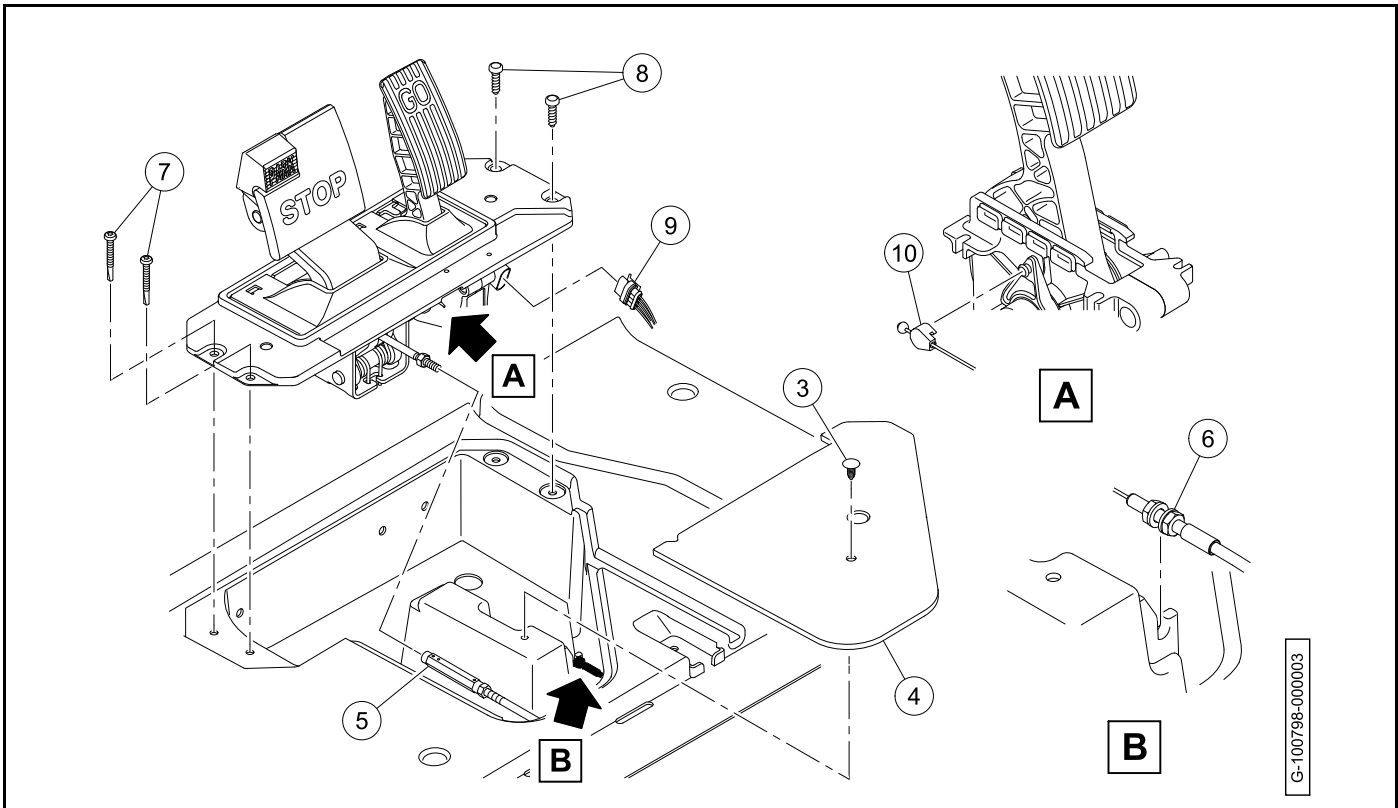

Figure 5-6
3. Pull the floor mat (2) over the pedal group.
4. Remove the fastener (3) (Figure 5-6).